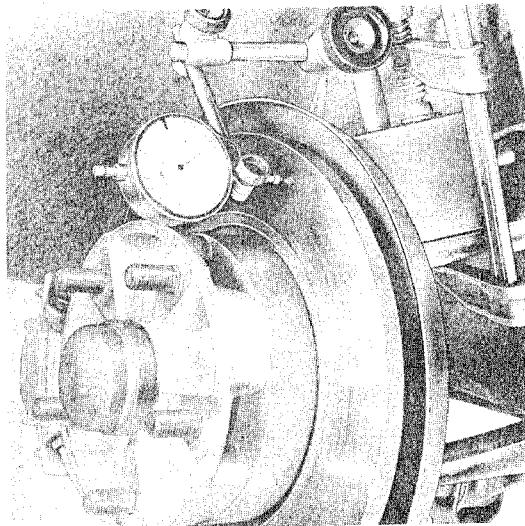

Fig. 16
- Maximum permissible lateral whip of the brake disc is 0,2 mm (.079 in.). Fig. 16 shows method of checking lateral whip.